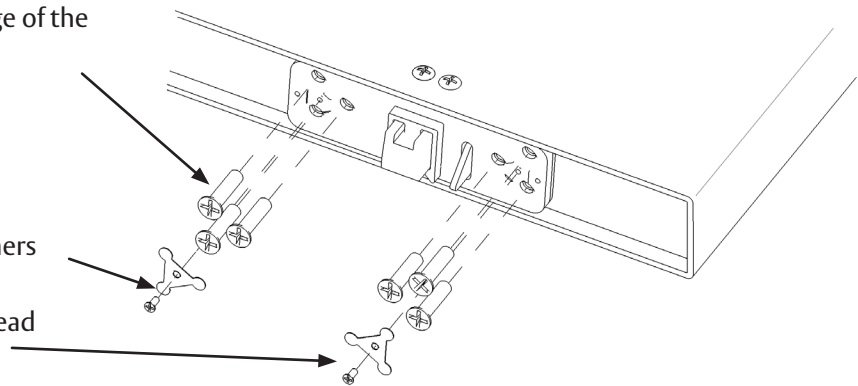

Figure 45
- Install six (6) 1/4-20 flat head screws in the top edge of the door. (Figure 45)